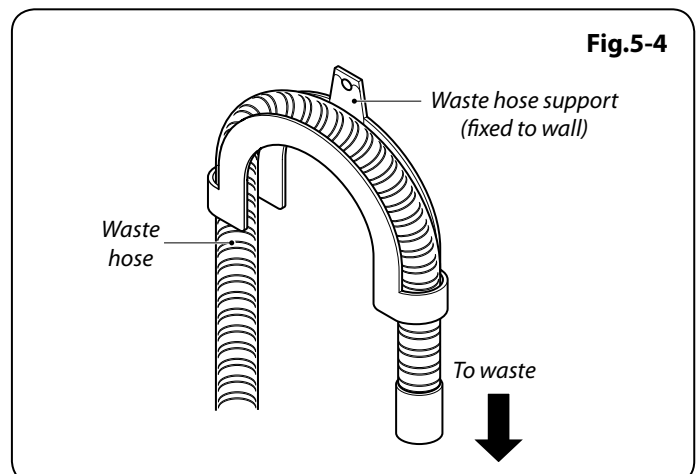

Fig.5-4
- ⚠ **WARNING! The connecting piece for the siphon trap (U-bend) must be solidly fastened to the wall to prevent the drain hose from moving and allowing water to spill outside the drain (Fig.5-4).**